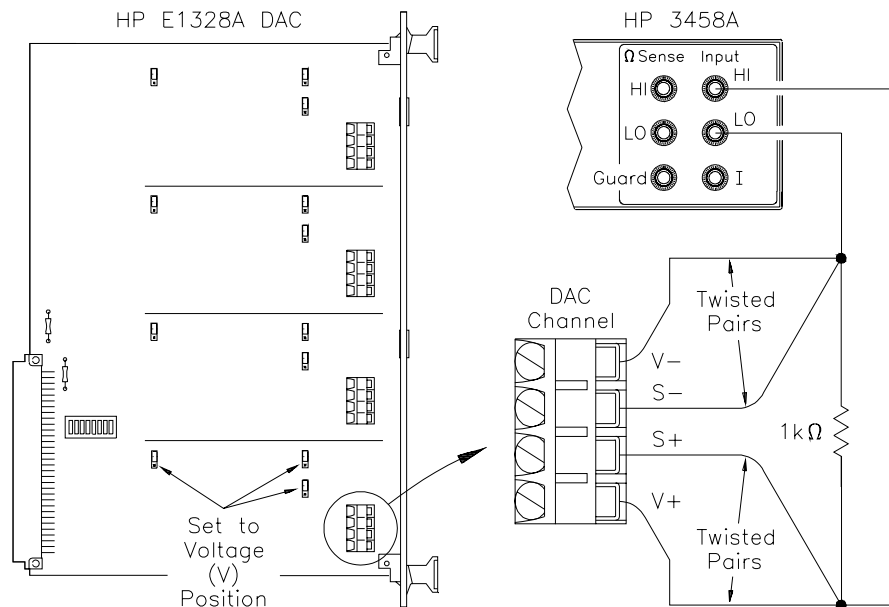

Figure 4-3. Voltage Accuracy Measurements Connections
Connect the equipment as shown in Figure 4-3. Be sure the three jumpers in each DAC channel are set to the V (voltage) position. Then, set the HP 3458A to DCV function and set NPLC 100.
The value of 1 k Ω in Figure 4-3 is the factory value used for original measurements. If you previously calibrated your DAC with a different resistance value, use that resistance value rather than 1 k Ω .
2. Connect HP 3458A and 1 k Ω resistor to Channel 1 (see Figure 4-3)